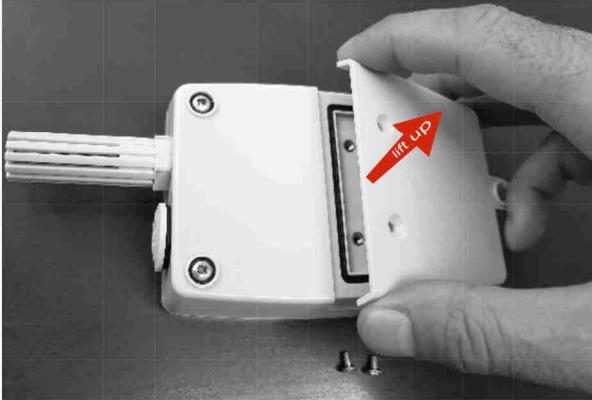

Fig.13. Opening the battery cover
- unscrew 2 screws and disassemble the battery cover (at the back of the casing at the top, Fig.13), being careful not to lose screws and rubber sealing o-rings, loosely mounted in the screw sockets under the cover